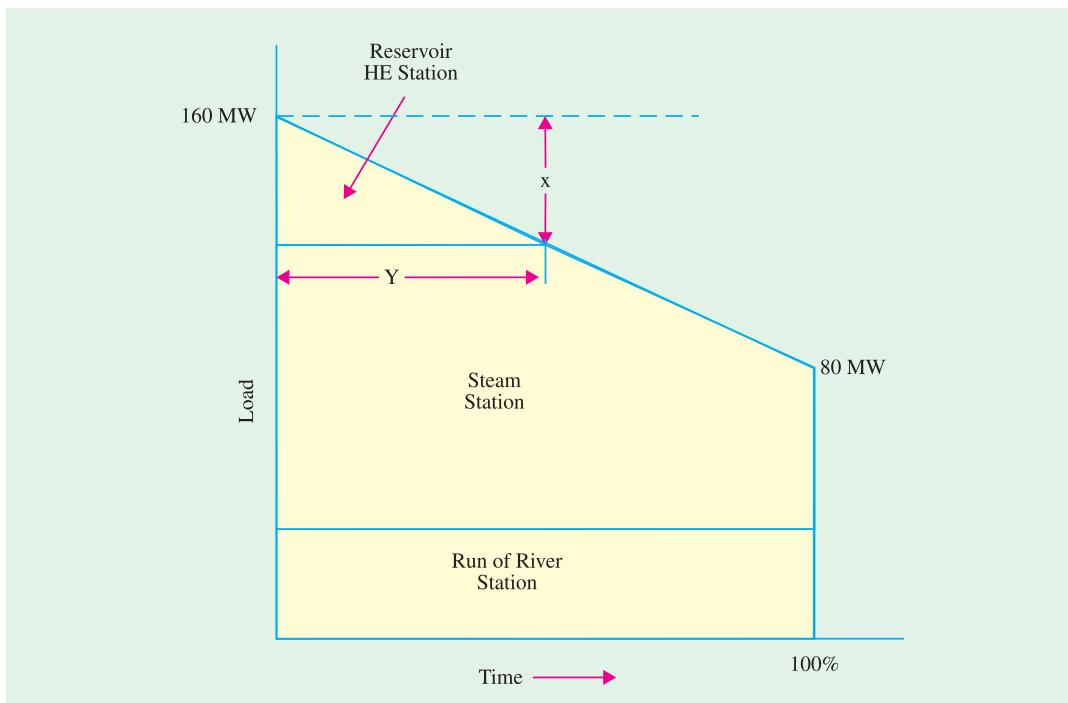

Fig. 50.10
**Example 50.24.** The load duration curve of a system is as shown in Fig. 50.10. The system is supplied by three stations; a steam station, a run-of-river station and a reservoir hydro-electric station. The ratios of number of units supplied by the three stations are as below :
Let  $x$  MW be the maximum demand of the reservoir plant. As shown in Fig. 50.10, let it operate for  $y$  hours.